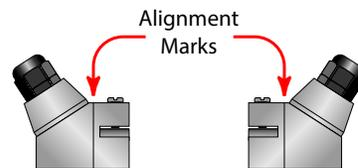

Figure 9: Transducer alignment marks
2. Orient and space the transducers on the pipe to provide optimum reliability and performance. Measure the spacing between the transducers between the two alignment marks on the sides of the transducers. These marks are approximately 0.75 inches (19 mm) back from the nose of the RZ, NZ, YZ and HZ transducers, and 1.2 inches (30 mm) back from the nose of the LZ, YZ transducers. See Figure 9.